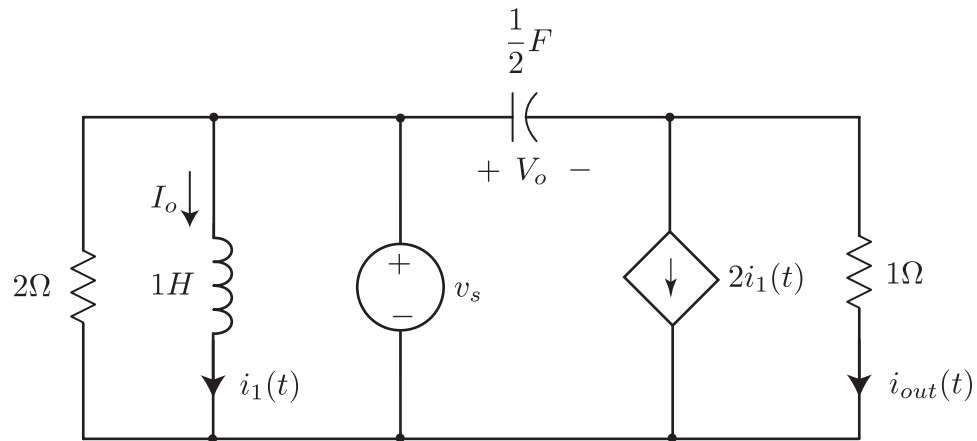

Figure 3
- Q.3 (a) Using any method of your choice determine the steady state current  $i_{out}(t)$  in the circuit shown in Figure 3 if  $v_s(t) = 12\cos(2t + 45^\circ)$  V.